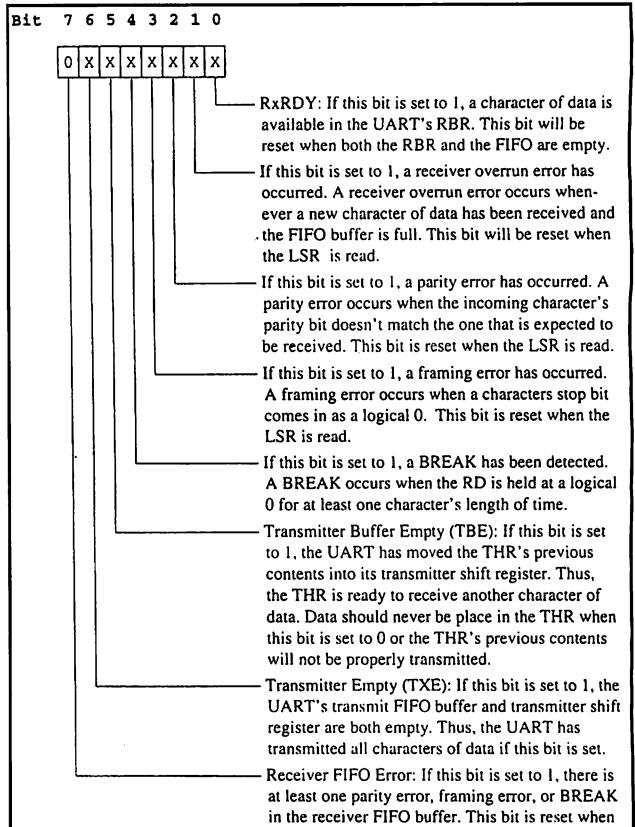

Fig. 11. Line-status register for 16550.
• **Line-Status Register.** The LSR is used by the UART to report availability of received data, errors and transmission-complete condition. The contents of this register, shown in Fig. 10, are read from location 0x3FD. The 16550 version of this register, shown in Fig. 11, includes a FIFO error bit.